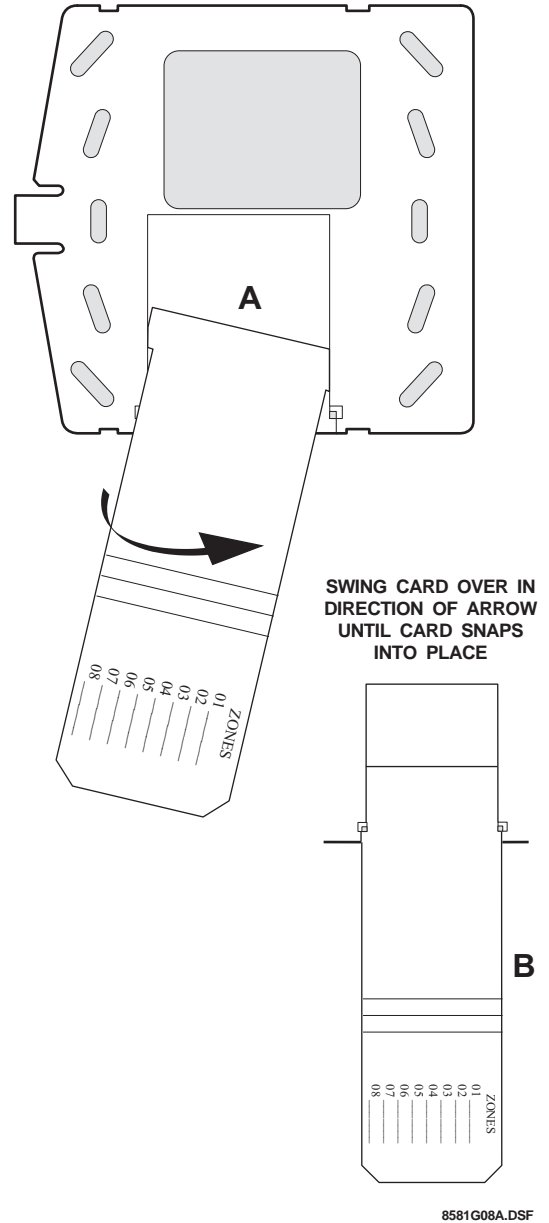

Figure 3. Inserting the Quick Guide Slide Card into the Mounting Plate
4. Looking at the back side of the mounting plate, turn it so the tab is on the left (see A in Figure 3) and position the Quick Guide slide card into the slots on back of the mounting plate as shown in Figure 3 (A). Make sure the card is unfolded and the 'Zones' section is facing you.
5. Slide the card in the direction of the arrow in Figure 3 (A) until it snaps into the position shown in Figure 3 (B).